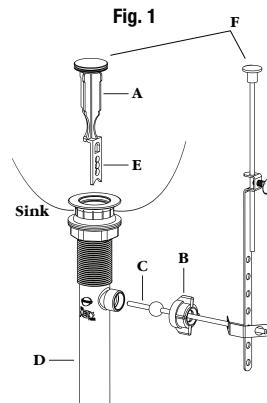
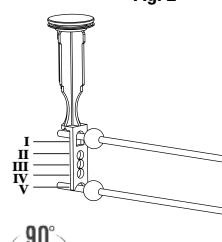
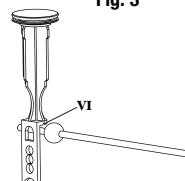

Fig. 1
Fig. 2
Fig. 3
1. Refer to figure 1. Unless specified, pull up on the existing Pop-up Stopper (A) in sink. If stopper lifts out, skip to Step 4. If not, move to next step.
2. Underneath sink, unscrew the Nut (B) that secures Ball Rod (C) in Drain Body (D).
3. Slide Ball Rod (C) out until Pop-up Stopper (A) will lift out of the sink.
4. Place new Pop-up Stopper (A) into the Drain Body (D), Tab (E) facing Ball Rod (C). Insert Ball Rod (C) into the Drain Body (D) through any one of the I-IV openings (shown in figure 2) in the tab (E) lock in the pop-up Stopper. If necessary, the ball rod can also be placed in the location V below the tab (E) as show in figure 2. If none of the locations I-V on the Tab (E) aligns with ball rod, lift out the pop up stopper and rotate it 90 degrees and place it back inside to see if the location VI can be used as shown in figure 3.
5. Screw the Nut (B) along with any washers if present. **DO NOT OVERTIGHTEN.**
6. Check if the Pop-up stopper is functioning properly using lift rod (F).